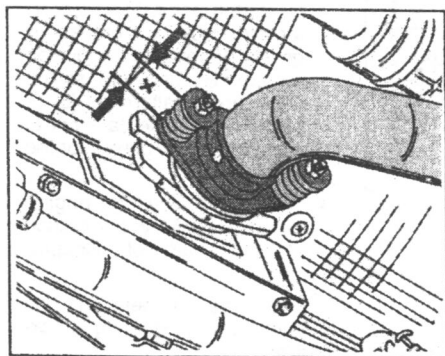

Fig. 1.12. — The two nuts must be tightened until dimension "X" is 22 mm on both sides of the pipe.
- Coat the sealing cones with a heat-resistant grease, such as "Gripcott A-F, as used by Citroën workshops. Place the springs and washers in position, fit the two nuts and tighten the nuts evenly until the dimension "X" in Fig. 1.12 is 22 mm. This will assure a gas-tight connection.